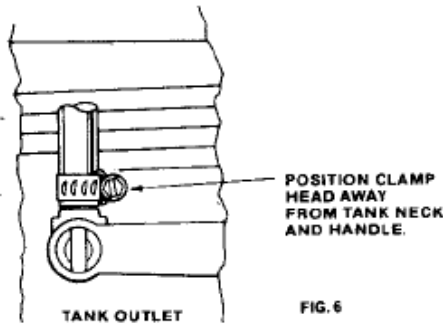

FIG. 6
Step 2. Hose at tank. SEE FIG 6.
- (d) Slide clamp into position shown in FIG. 6.